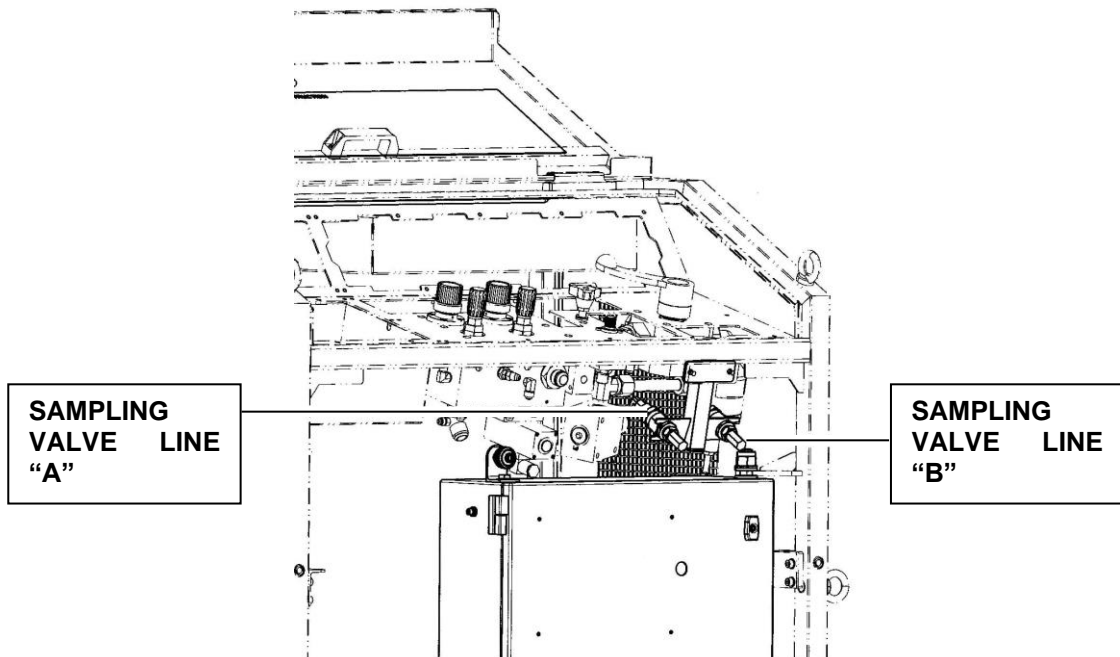

Fig. 3.5 FLUSHING HYDRAULIC PLANT AND FLEXIBLE HOSES
3.3.3 FLUSHING HYDRAULIC PLANT AND FLEXIBLE HOSES LINE "A" (B) - DRAW FLUID SAMPLES (Fig.3.5)